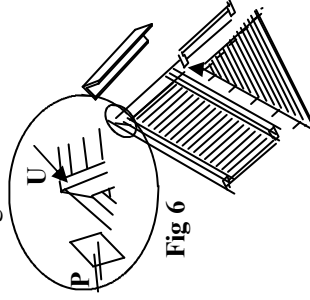

Fig 6
11. Take the two roof panels and join them together at the apex using two screws **U** as shown in Fig 6 one either side.
12. The back panel for the roof is in two parts. Push these together using the tongue and groove. Place this onto the ledge inside the assembled roof and push into the apex as far as possible. Fix in place using nails as shown in Fig 6.
15. Fix the finial at the apex of the roof using screws **P** as shown in Fig 6.